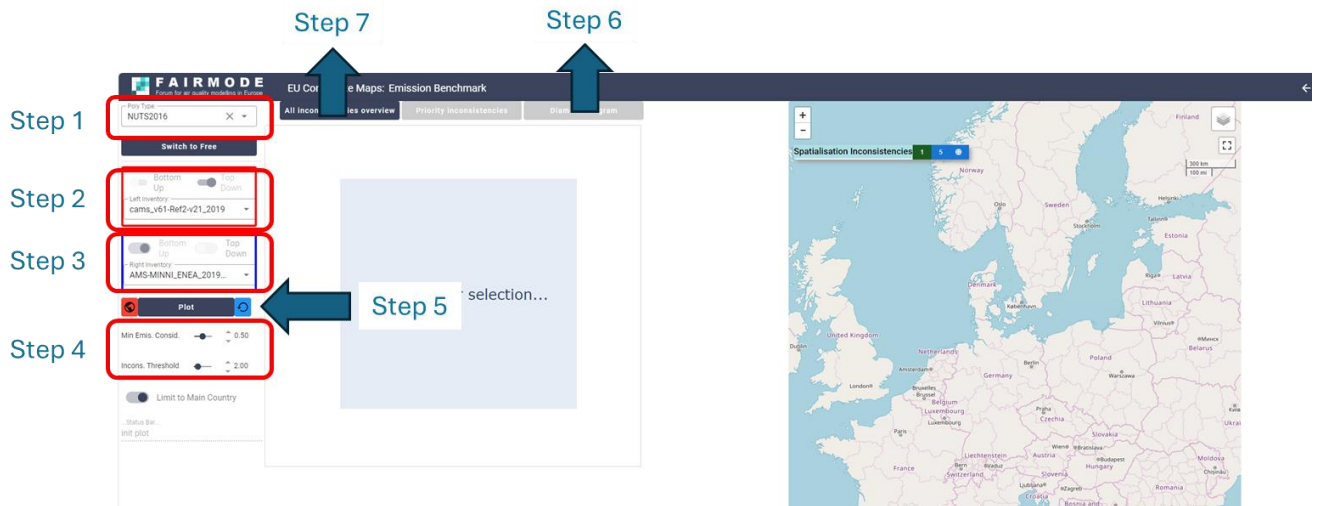
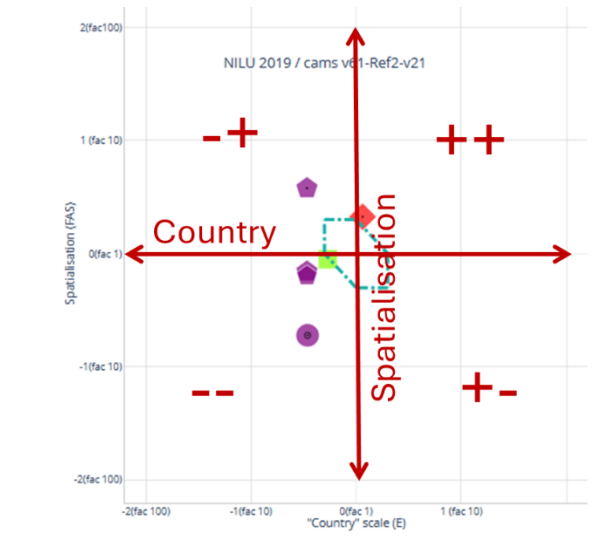

Figure 1: Home page of the Emission Composite Map, and steps 1 to 7 from the protocol.
Figure 2: Diamond diagram
1. Select polygon type (NUTS or FUA; Figure 1).
2. Select the EU wide inventory to consider for the comparison exercise (i.e., CAMS-REG, EDGAR, EMEP; Figure 1). For each inventory, different reference years are available.
3. Select the bottom-up inventory to consider for the comparison exercise (Figure 1).
4. Keep the "Min Emission Consideration" and "Inconsistency Threshold" default values (0.5 and 2.0; Figure 1)
5. Click "Plot" (Figure 1)
6. Click the "Diamond diagram" (Figure 1) to evaluate inconsistencies in term country level (LPT + LSS; x-axis) and due to spatial distribution of emissions (FAS; y-axis). Inconsistencies aligned along the x-axis indicate issues in term of country level (LPT or LSS), whereas inconsistencies aligned along the y-axis indicate issues related to the spatial distribution of emissions. Assess how many inconsistencies there are, which type, sector, pollutant, over- vs underestimation (Figure 2).
8. Click "Priority inconsistencies" to identify main inconsistencies (Figure 1); (from top to bottom; Figure 4):